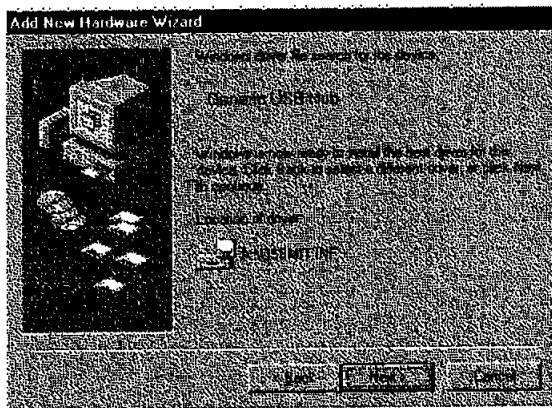
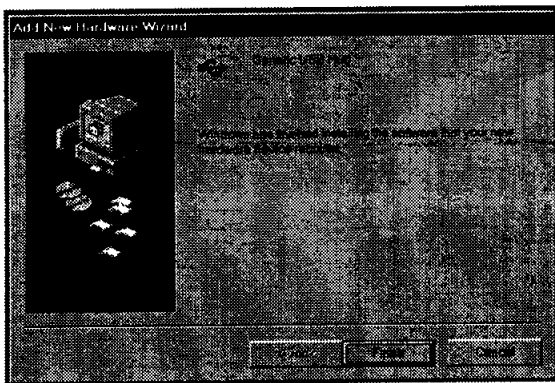

Figure 8
Figure 9
- (1) Connect the computer and the display monitor with the included USB upstream cable. Figure 8 will appear.
- (2) Click "Next" on Figure 8 to get Figure 9.
- (3) Click "Finish" on Figure 9 to complete the enumeration of Mitsubishi USB HUB.